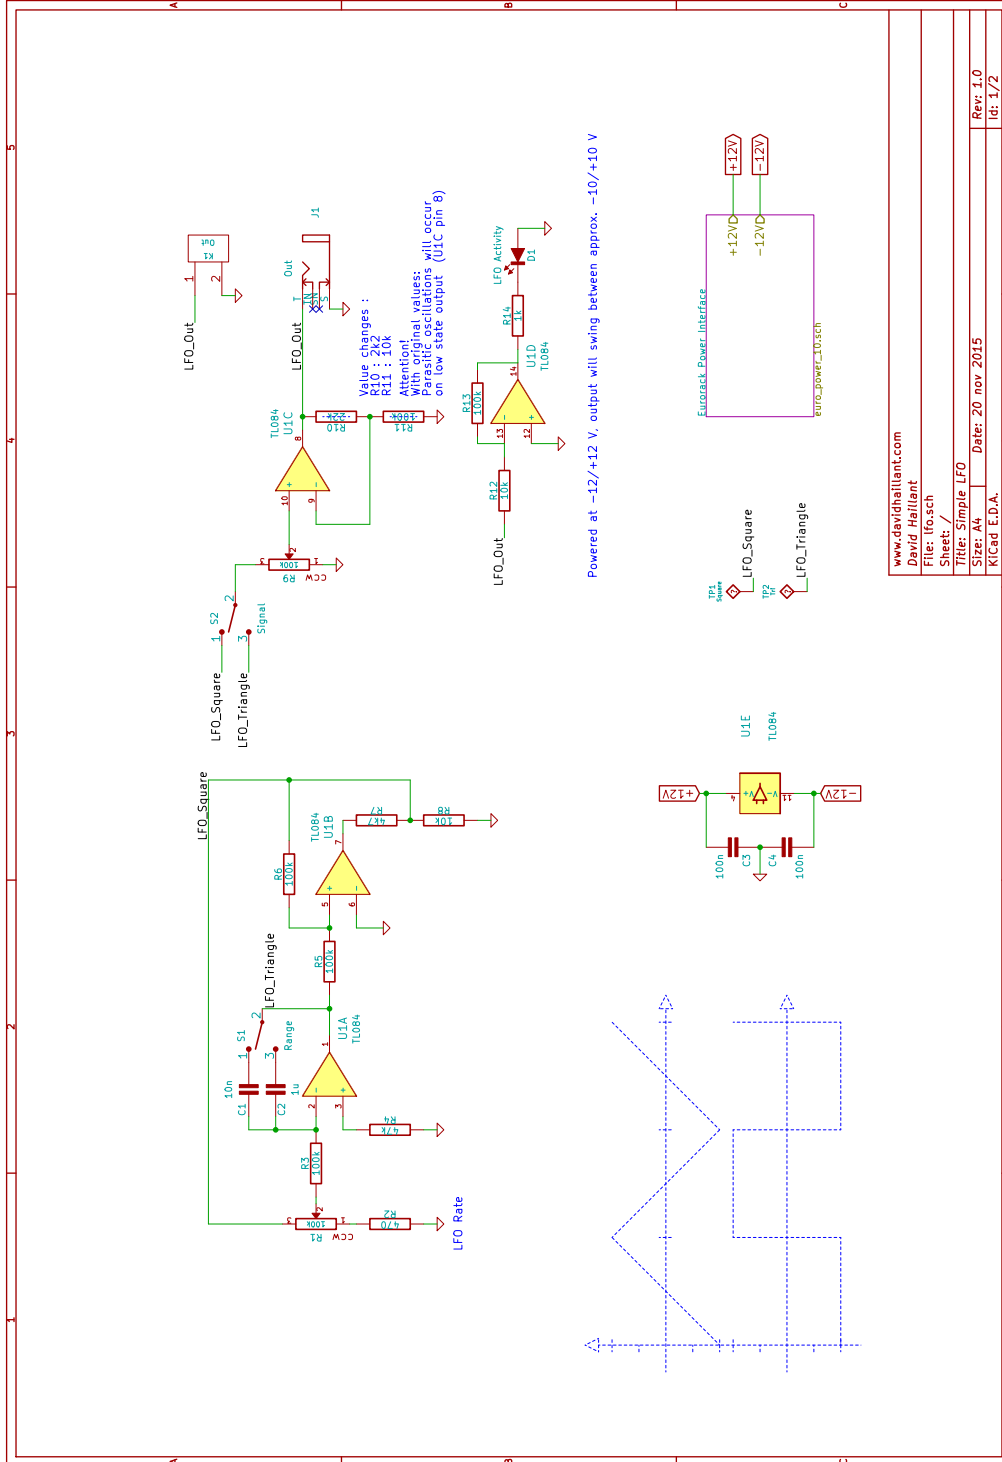

Figure 9: LFO of David Hailant
⁸Schematic in appendix - figure 9
⁹Schematic in appendix - figure 9
- Figure 9: <http://www.davidhaillant.com/wp/wp-content/uploads/lfo-1.1-schematics-20151120.pdf>, 19.10.2019.